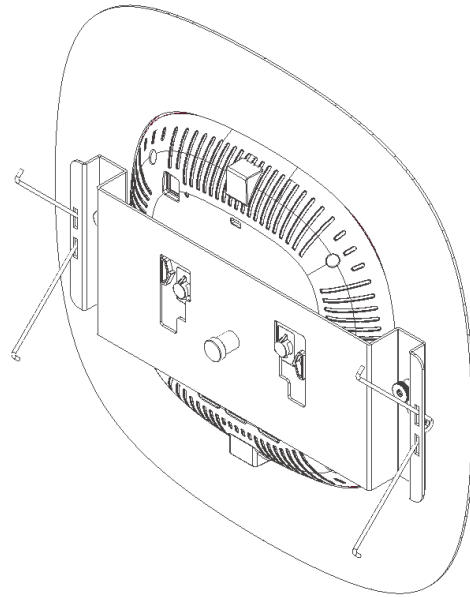

Figure 6 - Install Access Point
Step 6 - Place the bottom side of the access point in the opening as shown in Figure 6. The mounting pegs on the bottom of the access point should protrude into the widest portion of the mounting bracket's slots.